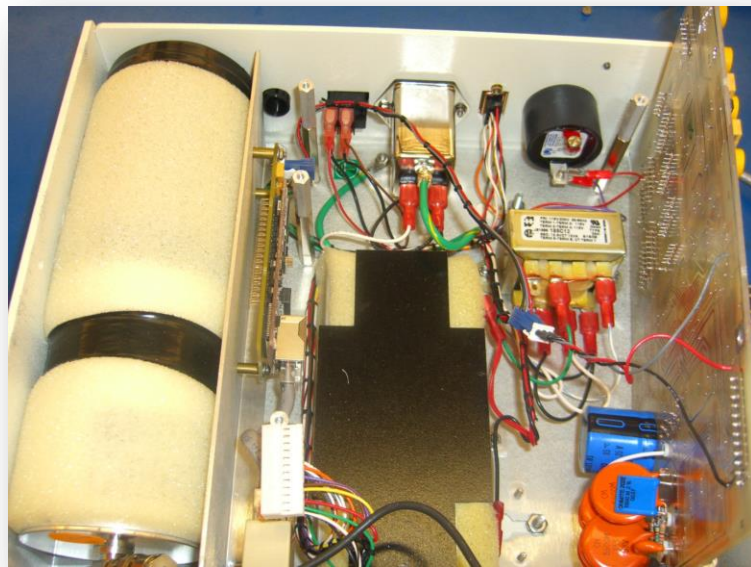

Figure 49 – Disconnecting the MTA Connector
2. Remove the four screws from the corners of the main board and disconnect the MTA connector. See Figure 49.